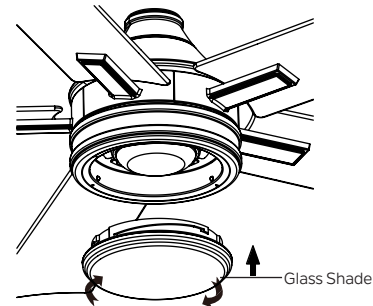

Fig. 24
Step 3. Secure the glass shade to light plate by turning in a clockwise direction. Turn the glass shade gradually until it snaps on to the light plate. DO NOT OVER-TIGHTEN. (Fig. 24)